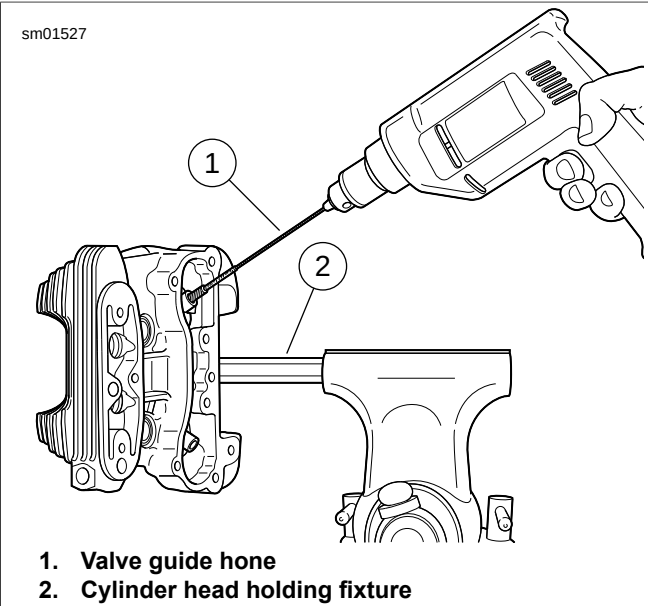

Figure 3-64. Honing Valve Guide Bore
- See Figure 3-64. Obtain the VALVE GUIDE HONE (Part No. B-45525) and REAMER LUBRICANT (Part No. HD-39964).